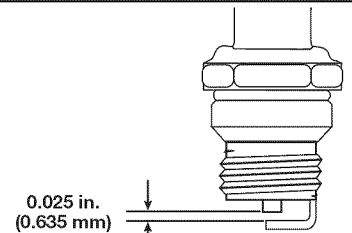

Fig. 45
4. Replace cracked, fouled or dirty spark plug. Set the air gap at **0.025 in. (0.635 mm)** using a feeler gauge (Fig. 45).